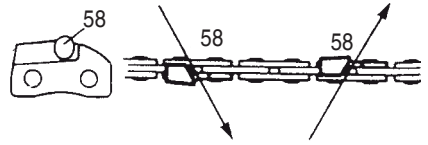

Fig. 49
File (58) cutter on one side of the chain from the inside out. File on forward stroke only. (Fig. 49)